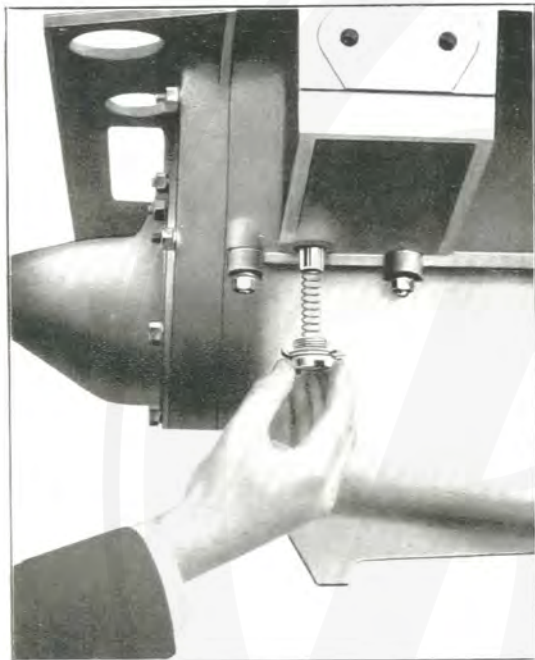

Fig. 7.
4. — **Oil pressure valve** : May be dismantled by unscrewing the plug and pulling the valve out vertically by hand (fig. 7). Do not forget to re-fit the spring.
III. — COOLING (fig. 7).